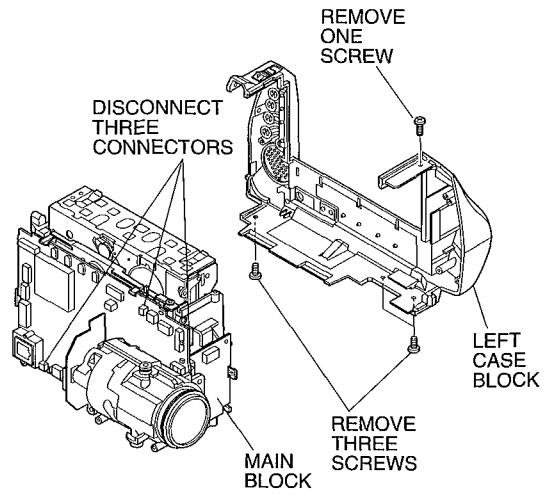

Fig. 2-8
2.7 Main Block, Left Case Block (Fig. 2-8)